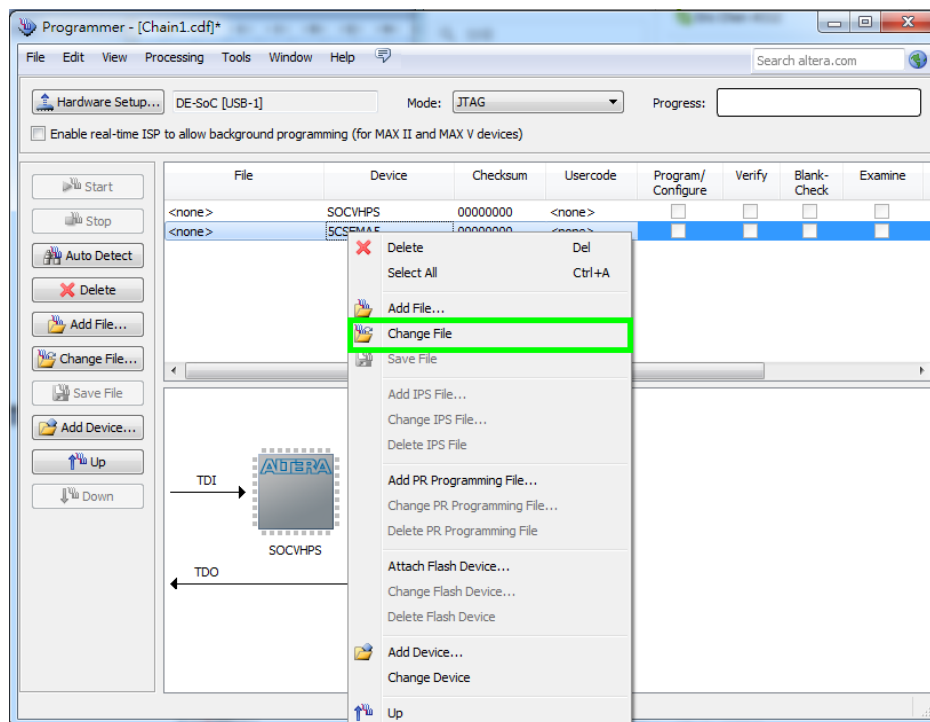

Figure 3-6 Open the .sof file to be programmed into the FPGA device
4. Right click on the FPGA device and open the .sof file to be programmed, as highlighted in **Figure 3-6**.